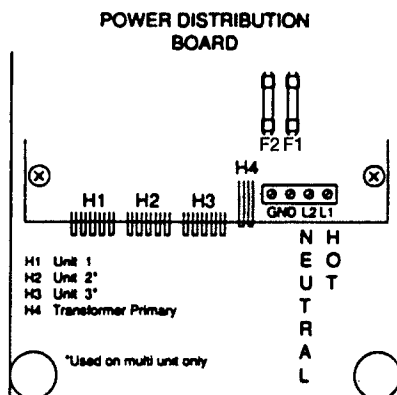

Figure 4
2. Connect GROUND, HOT and NEUTRAL of the power source to the 480QC terminals as shown in Figure 4.